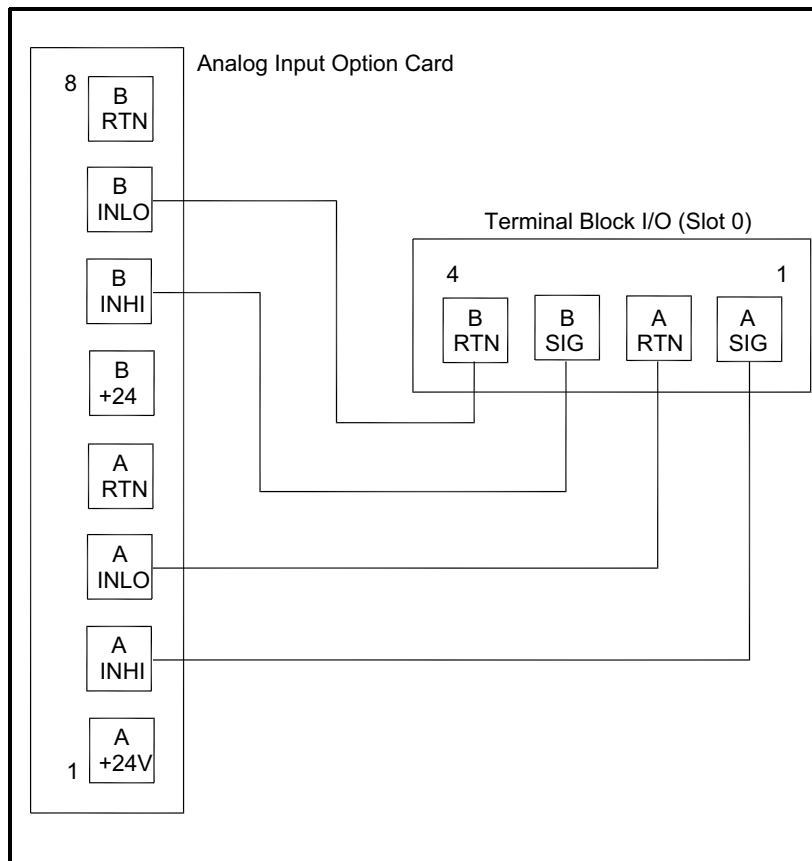
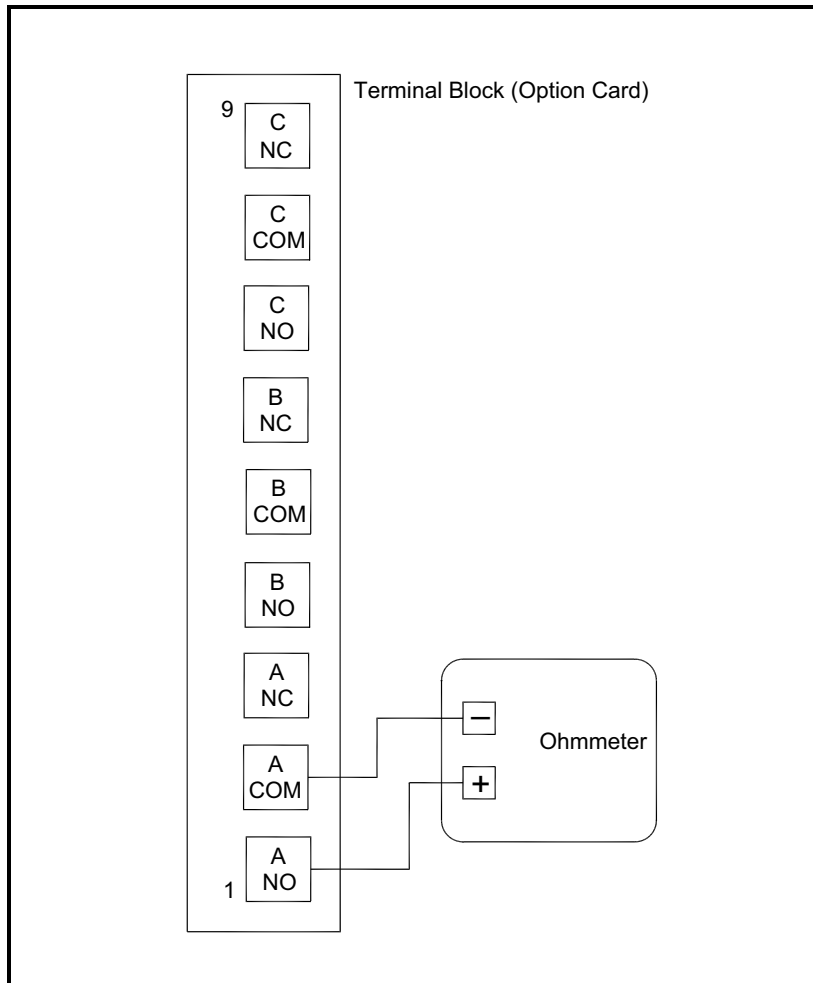
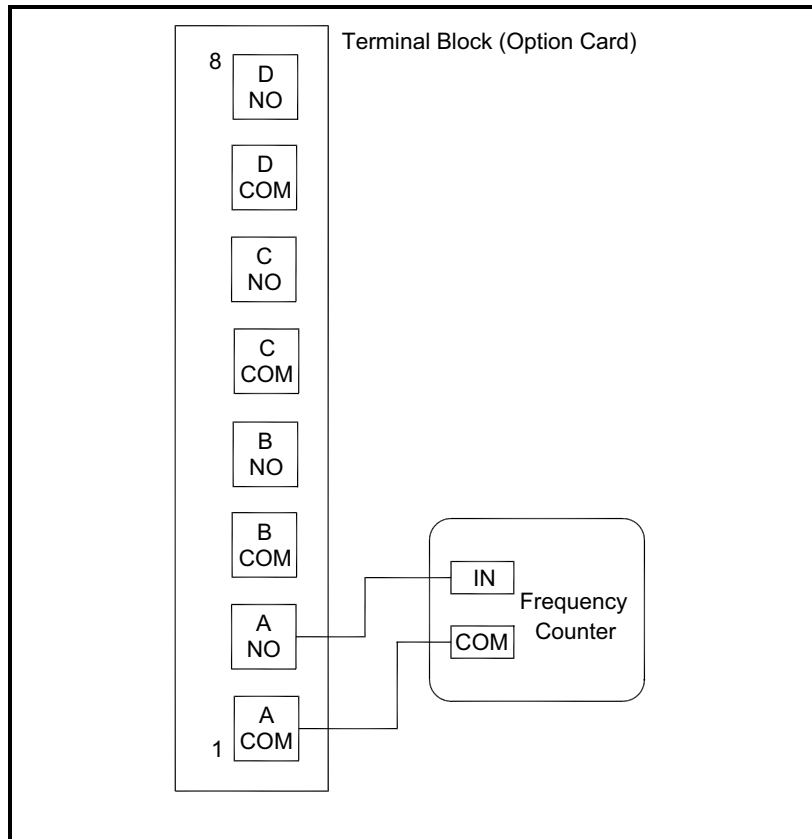
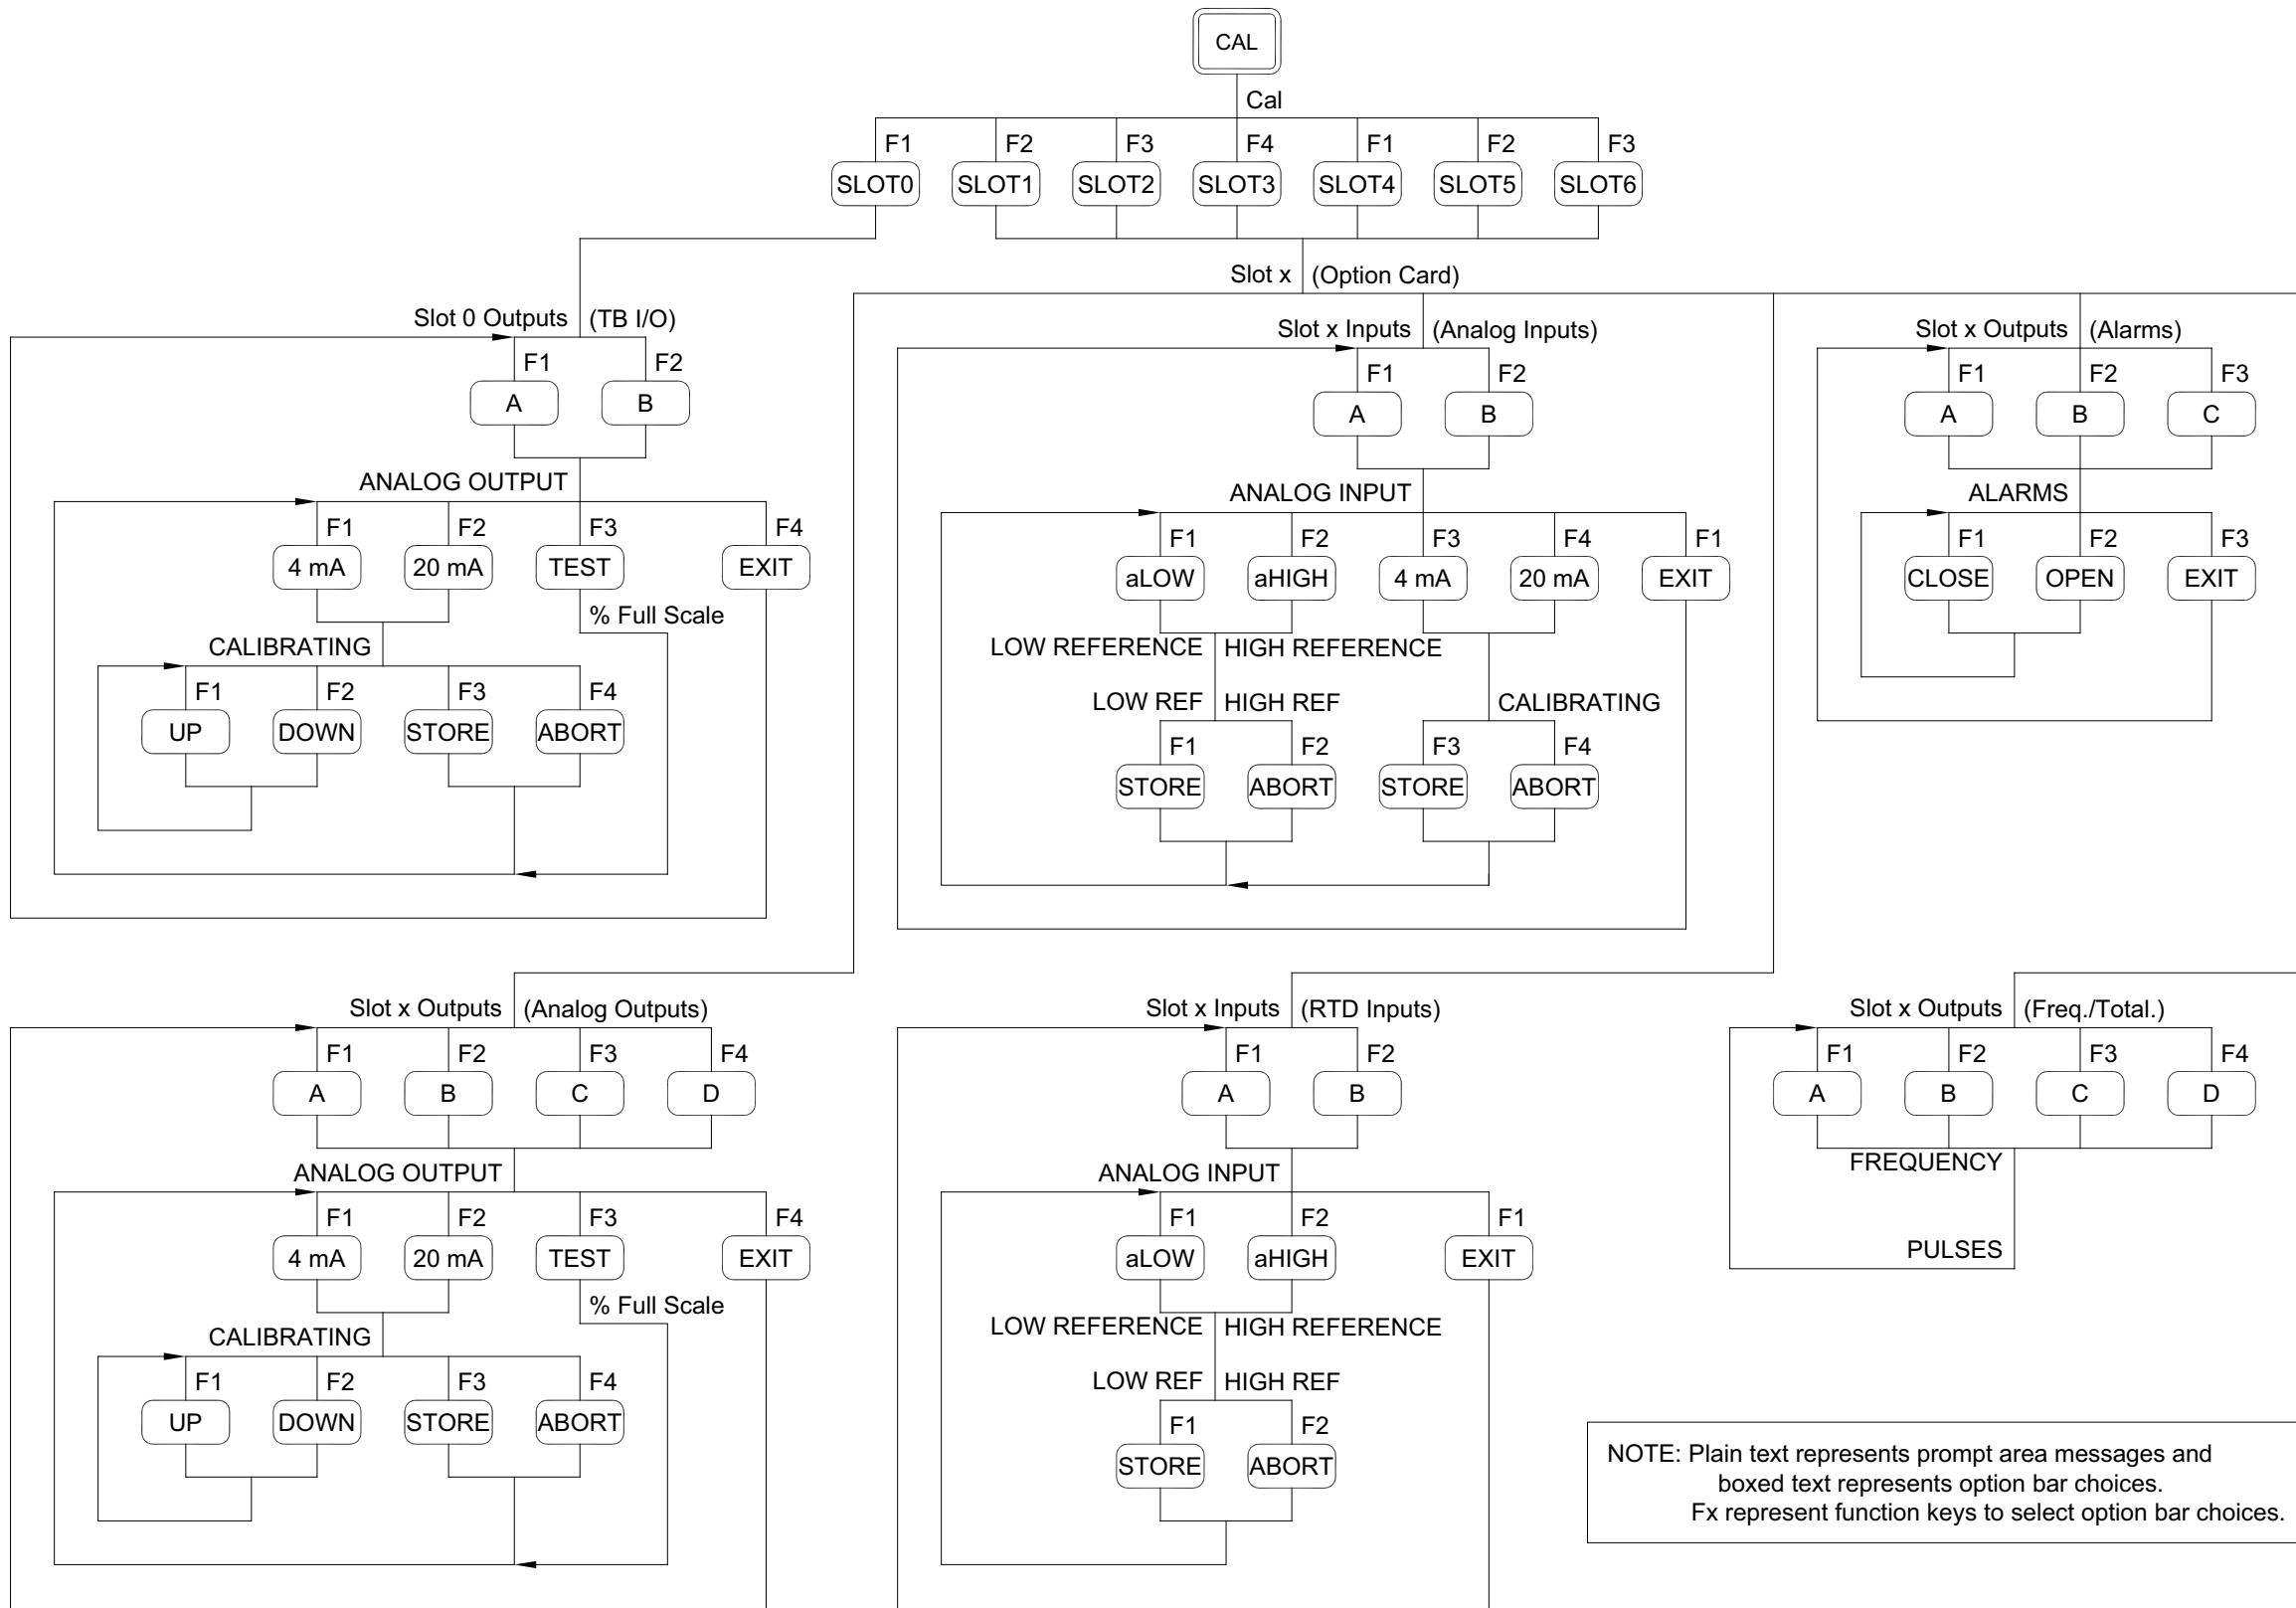

Figure 3: Analog Input Calibration Connections
Figure 4: Typical Ohmmeter Connections
Figure 5: Frequency Counter Connections
Figure 6: Calibration Menu Map
Connect the **Slot X** analog output(s) (or an independent calibrated current source) to the analog input(s) on the option card, as shown in Figure 3 below. Refer to the menu map in Figure 6 on page 13 as a guide.
The procedure for calibrating **Input A** is identical to that for calibrating **Input B**. However, when calibrating **Input B**, be sure a calibrated current source is connected to the appropriate pins on the terminal block. See Figure 3 on page 5 for the correct pin numbers.
1. Connect the 4 mA current source to the currently selected analog input, as shown in Figure 3 on page 5.
1. Connect the 20 mA current source to the currently selected analog input, as shown in Figure 3 on page 5.
Alarm relays may be added to the Model DF868 by installing an *Alarms Option Card* in one (or more) of the six expansion slots. Each option card includes three alarm relays, which are designated as A, B, and C. To test the alarm relays, connect an ohmmeter to the option card terminal block as shown in Figure 4 below. Refer to the menu map in Figure 6 on page 13 as a guide.
Note: *The procedure for testing Alarm Relay A is identical to that for testing Alarm Relays B and C. However, make sure that the ohmmeter is connected to the desired normally-open or normally-closed contact of the currently selected relay. See Figure 4 on page 9 for the correct pin numbers on the option card terminal block.*
Totalizer/Frequency outputs may be added to the Model DF868 by installing a *Totalizer/Frequency Option Card* in one (or more) of the six expansion slots. Each option card includes four outputs, which are designated as A, B, C and D. To test the outputs, connect a frequency counter to the card's terminal block as shown in Figure 5 below. Refer to the menu map in Figure 6 on page 13 as a guide.